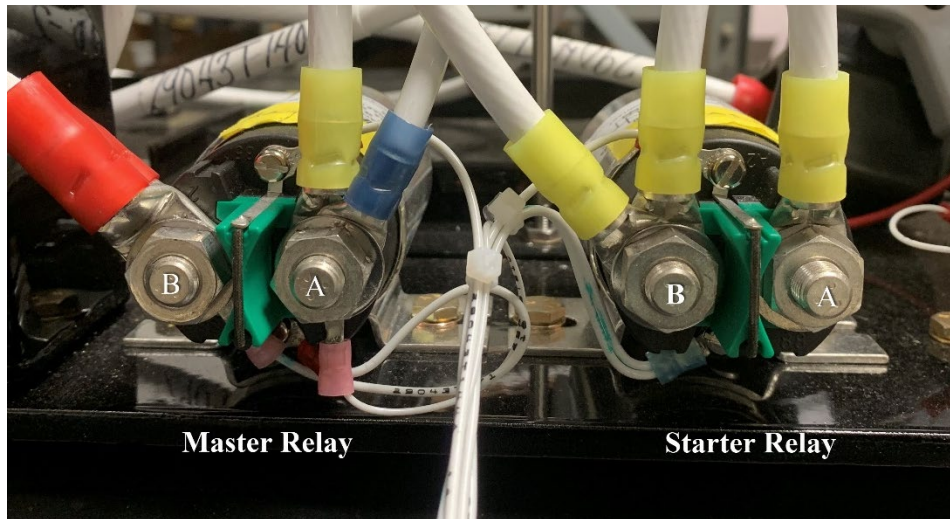

Figure 3
- 4) Reroute wires 29043-156-4 & 29043-910-20 to the A stud of the Master Relay. See Figure 3 and 4.